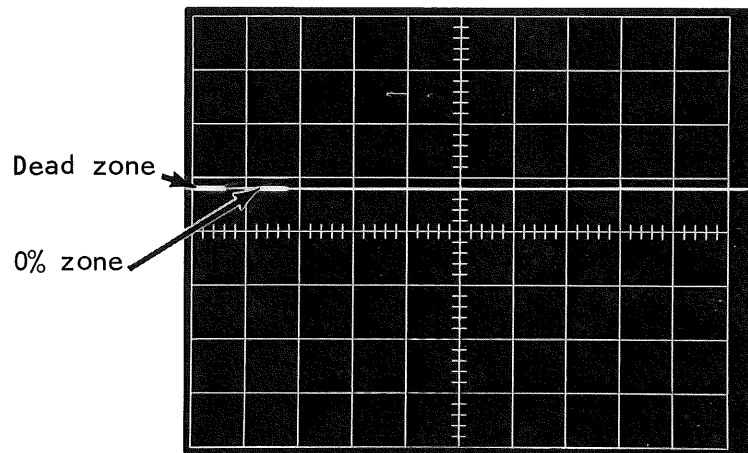

Figure 2-13
3. On the 6R1A, set the B 100% ZONE POSITION control full CCW. Set the B 0% ZONE POSITION control so the 0% zone is out of the dead zone. See Figure 2-13.